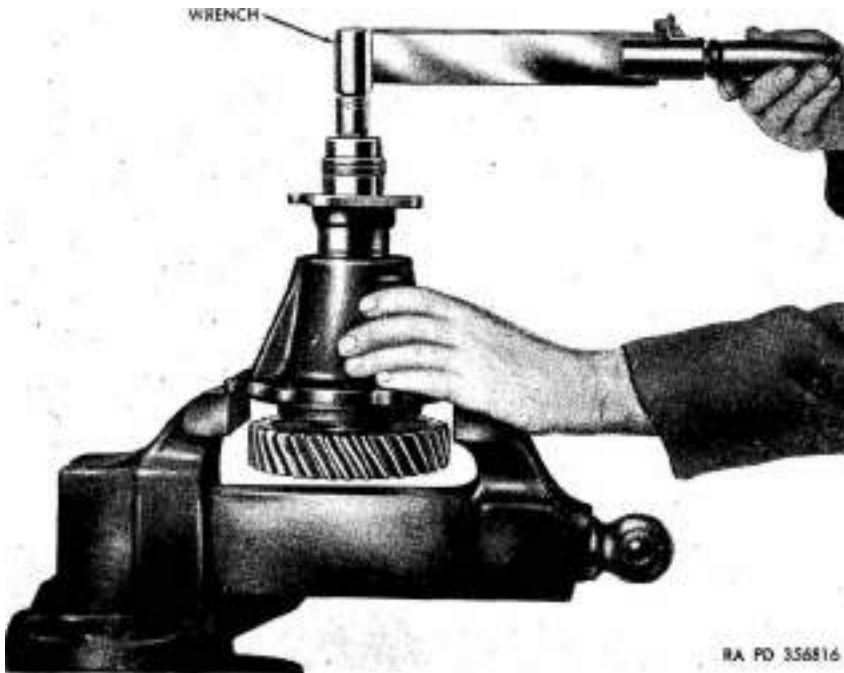

Figure 130. Checking preload of bearings on output shaft with torque indicating wrench.
- (3) Clamp companion flange between copper jaws of a vise and tighten slotted nut with torque indicating wrench and socket (fig. 130).
- (1) Place bearing retainer assembly on a suitable stand or the open jaws of a vise in a vertical position so that the output shaft will be free to rotate. Rotate shaft with a torque indicating wrench (*fig. 130*) until bearings roll smoothly and check preload of bearings with wrench in motion.
- (2) If preload of bearings is not within 15 to 30 pound-feet torque (*par. 346*), add or remove shims, as required, to obtain correct preload.
- (3) Remove slotted nut, plain washer, and companion flange.
- (2) If preload of bearing is not within the limits specified in paragraph 346, add or remove shims, as required, to obtain correct preload. When correct preload is obtained, remove slotted nut, plain washer, and companion flange.